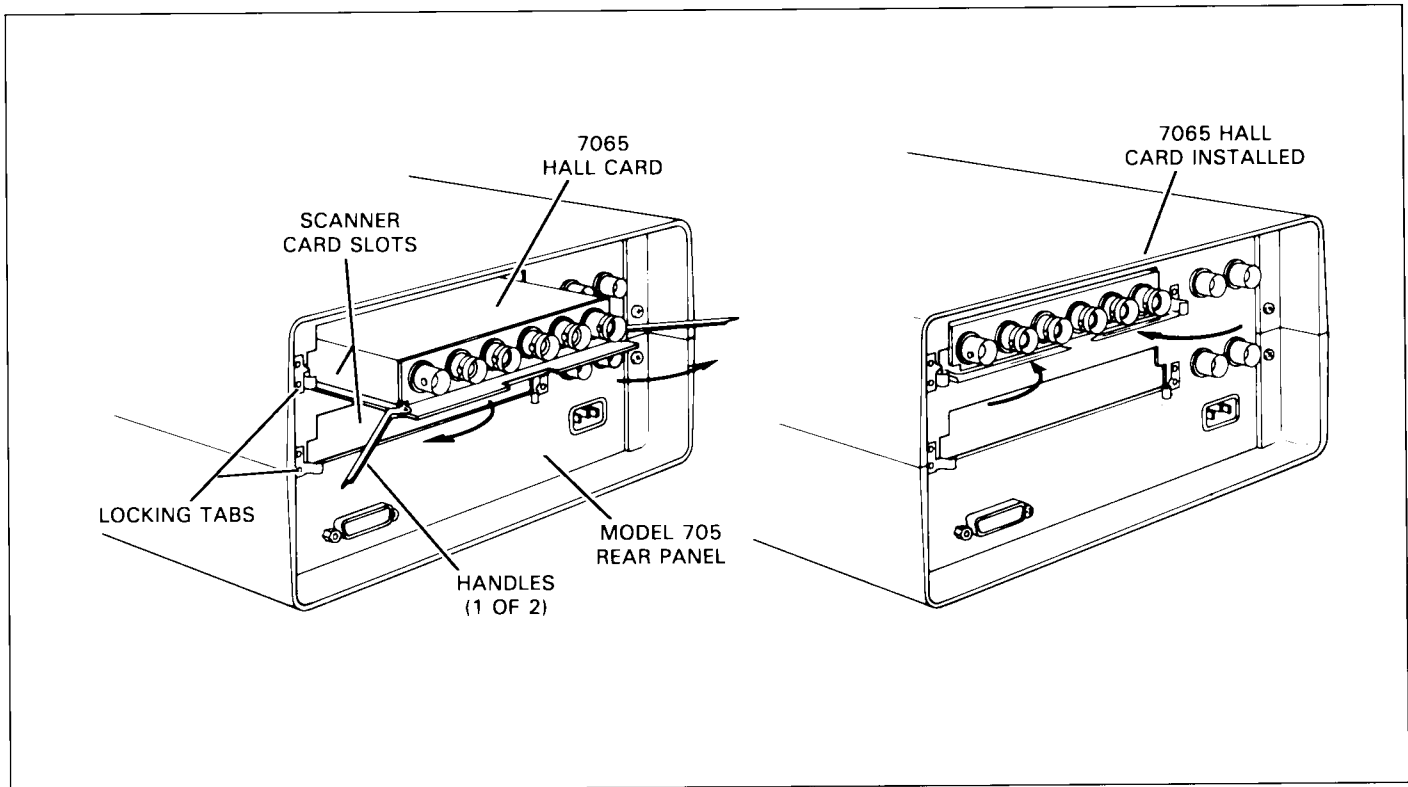

Figure 2-1. Model 705, Card Installation
Refer to Figure 2-1 and install or remove the Model 7065 Hall Card as follows:
2. Once the card is fully seated, lock the card by placing the tabs into the locked position, as shown in Figure 2-1.